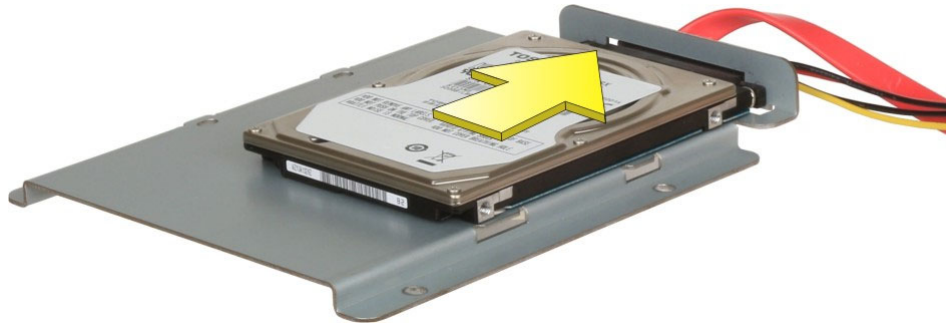

Figure 3-6: Connecting the Hard Drive to the HDD Bracket
Step 3: Attach the hard drive to the bracket. To do this, slide the hard drive onto the bracket until it connects with the SATA connector at the back (**Figure 3-6**).